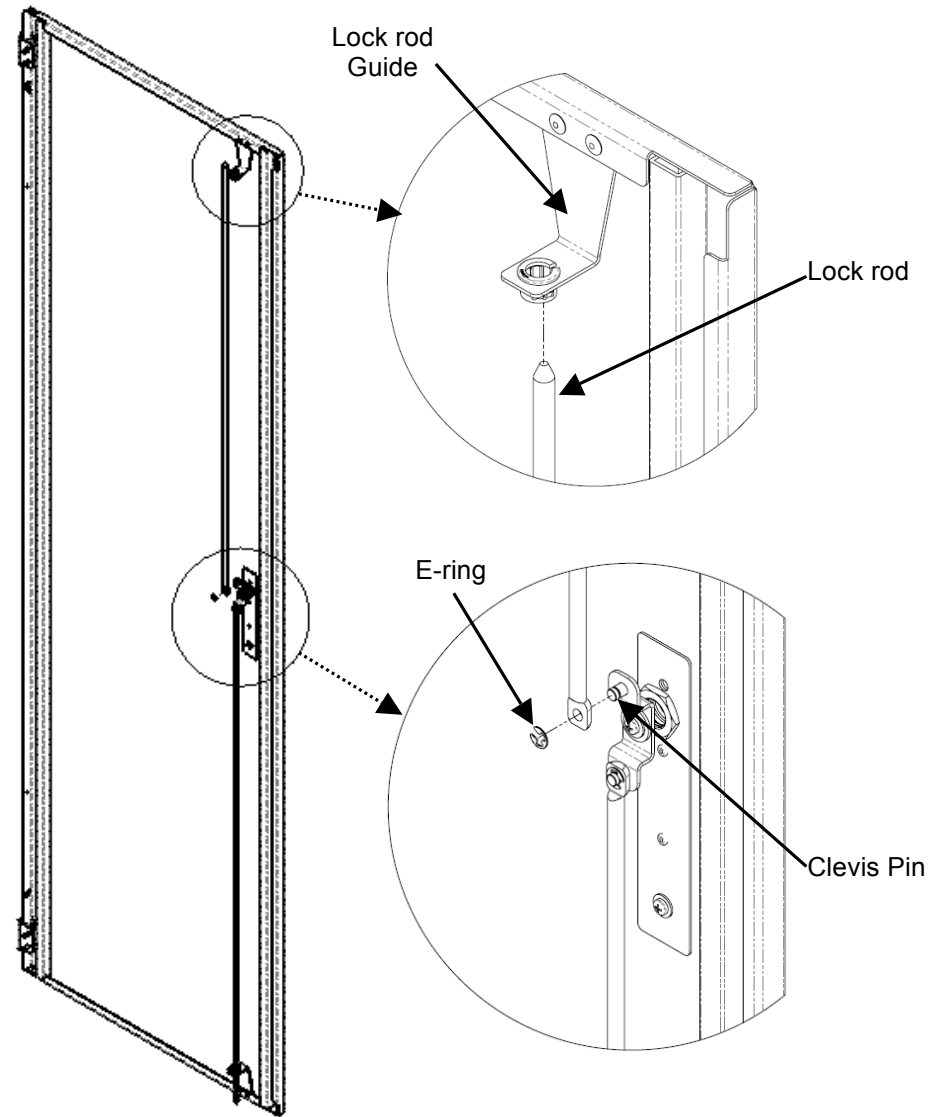

Fig. 7
4. Insert the lock rods through the guides, with the short rod on the top and the long rod on the bottom (Fig. 7).
5. Insert the cam assembly pins through the short rod (on top) and the long rod (on bottom), then through the other half of the cam assembly (Fig. 7) and locked with-ring.